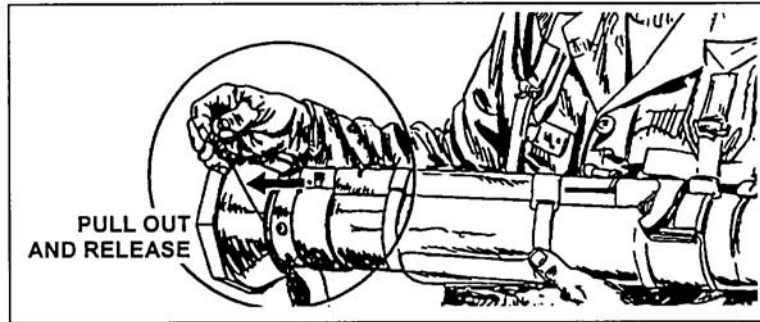

Figure 3. Removing the transport safety pin.
- b. While cradling the launcher, pull the transport safety pin with the right hand and release it (Figure 3).